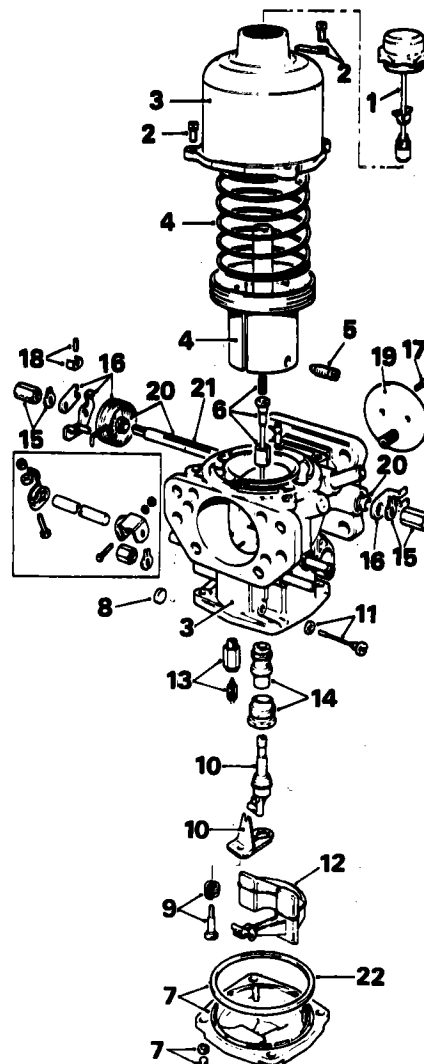

Fig. 10
Unscrew the cap of the suction chamber, lift until resistance is felt, support the piston (with a finger through the intake) at the top of its travel and pull the cap firmly upwards to release the damper retainer from the piston rod. Remove the damper (1, Fig. 10).
Unscrew the suction chamber retaining screws and remove the identity tag (2, Fig. 10).
Slightly rotate the suction chamber to free it, and lift vertically from the body without tilting (3, Fig. 10).
Remove the spring, lift out the piston and needle assembly and empty the oil from the piston rod (4, Fig. 10).
position of 'V' mark on needle guide for correct reassembly) and remove the needle guide locking screw. Discard the screw (5, Fig. 10). Withdraw the needle with guide and spring (6, Fig. 10).
Remove the bottom cover-plate retaining screws and the spring washers and detach the cover-plate with the sealing ring (7, Fig. 10). Only if it is essential, remove the jet adjusting screw, plug and sealing from its counterbore and withdraw screw; and 'O' ring is carried in a groove in its head (8, Fig. 10).
Remove the jet adjusting lever retaining screw. Collect the spring (9, Fig. 10). Withdraw the jet and adjusting lever together and separate the lever from the jet (10, Fig. 10).
Unscrew and remove the float pivot spindle. Collect washers from between the pin head and carburettor body (11, Fig. 10). Withdraw the float (12, Fig. 10).
Remove the needle valve and unscrew the valve seat (13, Fig. 10). Unscrew the jet bearing locking nut and withdraw the jet bearing (14, Fig. 10).
Bend back the lock washer tabs and unscrew the nut retaining the throttle levers and return spring. Note location of levers and spring (15, Fig. 10).
Remove the yoke lever and the return spring (16, Fig. 10).
Remove the throttle disc retaining screws (17, Fig. 10).
Remove the slow-running adjustment grub screw, tamperproof cap, and spring clip (18, Fig. 10).
Close the throttle and mark the position of the throttle disc in relation to the carburettor flange. Do not mark the disc in the vicinity of the over-run valve. Open the throttle and carefully withdraw the disc from the throttle spindle, taking care not to damage the over-run valve (19, Fig. 10).
Withdraw the throttle spindle and remove its seals, noting the way it is fitted in relation to the carburettor body to ensure correct reassembly (20, Fig. 10).
Examine the throttle and its bearings in the carburettor body; check for excessive play, and renew parts as necessary (21, Fig. 10).
Examine the float needle and seating for damage and excessive wear; examine the nylon body of the needle for cracks; renew both the needle and the seat if necessary (13, Fig. 10).
Examine all the rubber seals and 'O' rings for damage or deterioration; renew as necessary. The cover-plate sealing ring must be renewed. Examine the carburettor body for cracks and damage and for security of brass connections and piston key (3, Fig. 10).